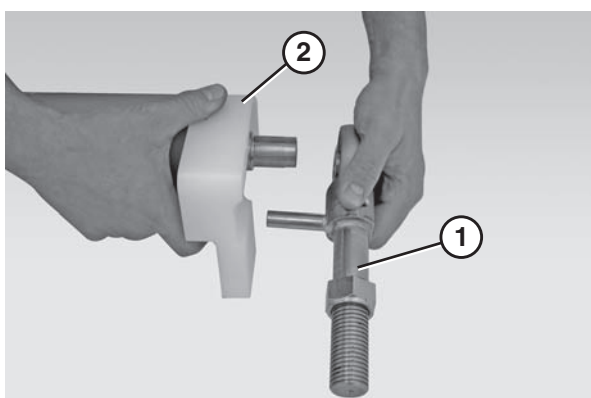

Figure 65
- Remove the bearing shaft (**Figure 65, item 1**) and both pinch guards (**Figure 65, item 2**).